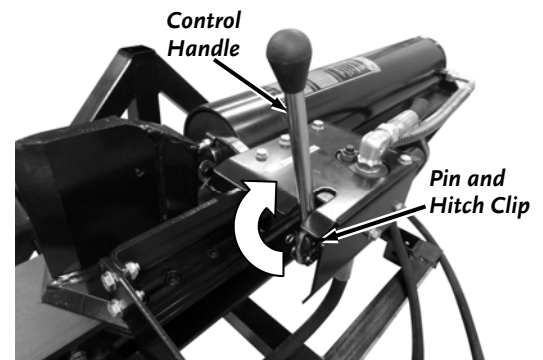

Figure 4
1. Remove the Pin and Hitch Clip from the Control Valve (**Figure 4**).